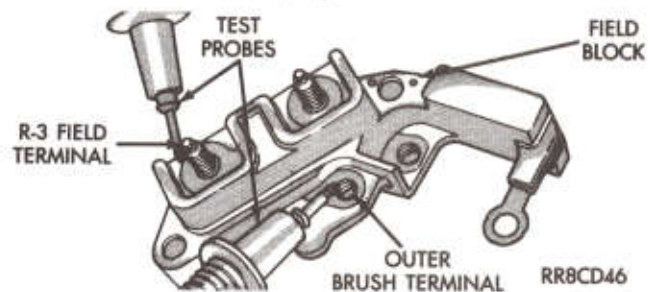

Fig. 3—Test Field Block R-3 Terminal
(1) Using an ohmmeter, test for continuity from the outer brush terminal to the R-3 field terminal; the circuit should be closed (Fig. 3).